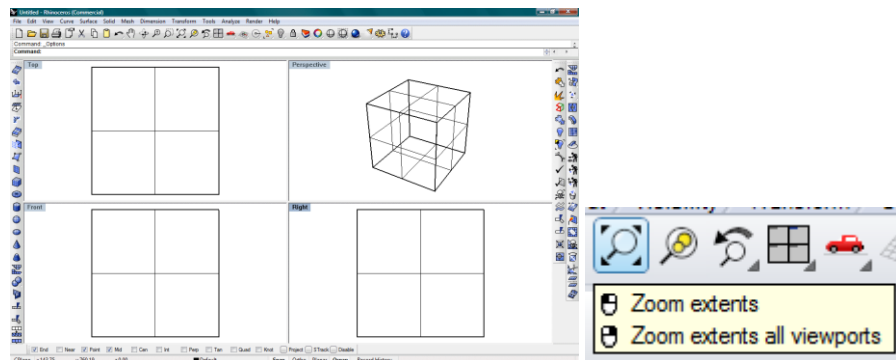

Figure 36: Four views of a box.
3. Right-click on the **Zoom Extents all viewports** button to make the box fit inside each window. This completes the creation of a Box (Figure 36).